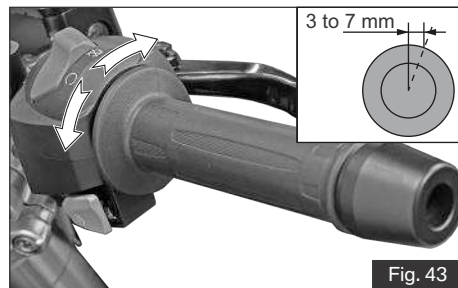

Fig. 43
- ♦ Measure the throttle cable play at the throttle grip end as shown in the figure at various position of the steering (ref. Fig. 43).